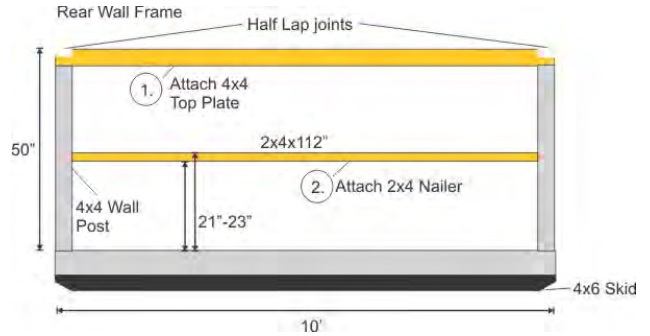

Figure 1
Step 1. Once the corner posts are done begin attaching your top plate beams and nailers. Start with the rear wall top plate making sure the half-lap joints are placed facing up. Figure 1. The rafter layout is marked on the beams and should be placed with layout up. The rear top plate beam is end nailed through the half laps into the top of the posts using three 16d framing nails at each post.
Step 2. Install the 2x4 horizontal nailer at 21-23". Figure 1. Nailers are toe nailed to the corner posts using one 16d nail on each 2" side and two 16d nails up from the bottom 4" side.